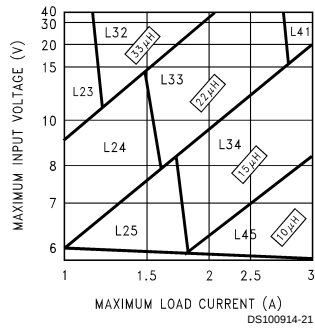
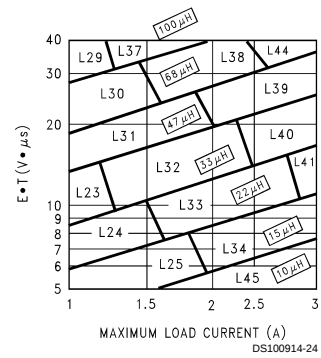

FIGURE 3. LM2676-3.3
FIGURE 6. LM2676-ADJ
Step 3: Determine the inductor required by using one of the four nomographs, *Figure 3* through *Figure 6*. Table 1 provides a specific manufacturer and part number for the inductor.
Step 5: Determine an input capacitor from Table 4 for fixed output voltage applications. Use Table 2 to find the specific capacitor type. For adjustable output circuits select a capacitor from Table 2 with a sufficient working voltage (WV) rating greater than $V_{in\ max}$, and an rms current rating greater than one-half the maximum load current (2 or more capacitors in parallel may be required).
Step 3: Use the nomograph for the 3.3V device, *Figure 3*. The intersection of the 16V horizontal line ($V_{in\ max}$) and the 2.5A vertical line ($I_{load\ max}$) indicates that L33, a 22 μ H inductor, is required.
Step 3: To use the nomograph for the adjustable device, Figure 6, requires a calculation of the inductor Volt•microsecond constant (E•T expressed in V•μs) from the following formula:
Using Figure 6, the intersection of 27V•μs horizontally and the 2A vertical line (I_{load max}) indicates that L38, a 68μH inductor, should be used.
Important Note: When using the adjustable device in low voltage applications (less than 3V output), if the nomograph, Figure 6, selects an inductance of 22μH or less, Table 6 does not provide an output capacitor solution. With these conditions the number of output capacitors required for stable operation becomes impractical. It is recommended to use either a 33μH or 47μH inductor and the output capacitors from Table 6.